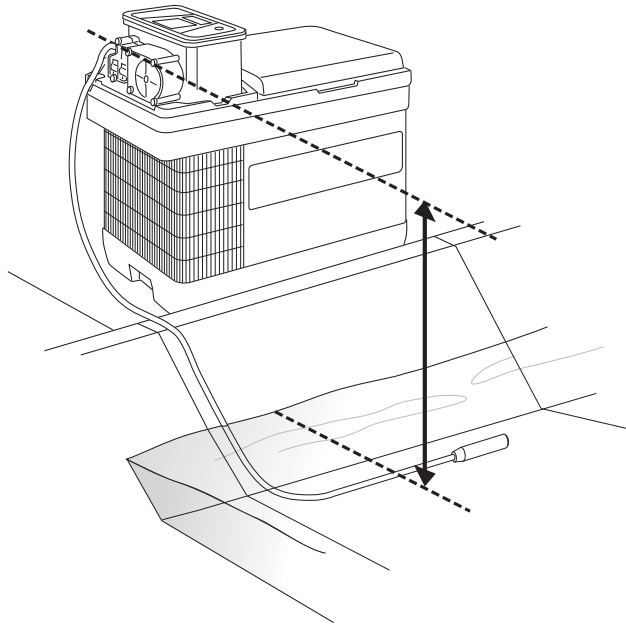

Figure 2-9 Measuring Suction Head Height
1. Measure the Suction Head height (Figure 2-9).